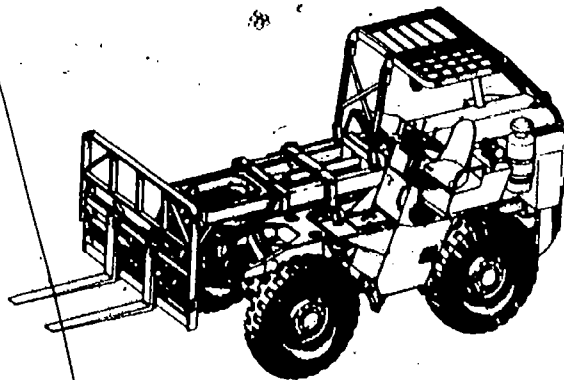

Fig 1-15. Rough-terrain forklift.
- (2) Forklift, 6,000-lb (fig 1-15). The RKF 060 and the OS-3354 are 6,000-lb forklifts for use in landing operations, helicopter operations, and general materials handling under field conditions. They are relatively easy to operate and are extremely helpful in combat situations where large volumes of palletized supplies are being handled. They are not multi-purpose machines; they were designed to be used as forklifts only. They have 3914 series 71 Detroit diesel engines, torqueomatic transmissions, and power steering. They are designed to operate in water up to 5 ft deep. Both the RKF-060 and the OS-3354 have a lift-height capability of 144 inches. While they are similar to the new family of rubber-tired sectionalized construction equipment, they cannot be sectionalized and must land over the beach or by large transport type aircraft.